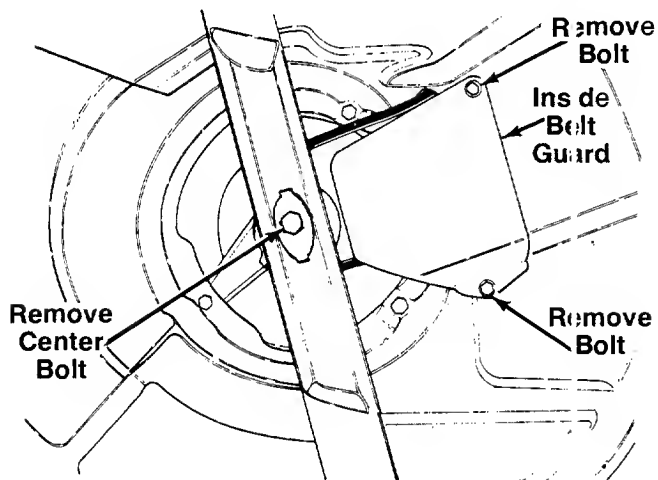

FIGURE 29.
6. Remove the center bolt which secures the blade to the crankshaft. See figure 29. Remove the blade, blade adapter and pulley half. Remove the belt.
7. Remove the inside belt guard by removing two self-tapping screws. A 3/8" wrench is required. See figure 29.